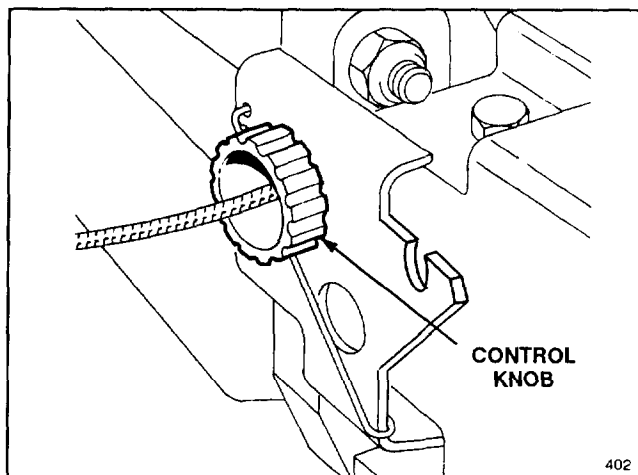

Figure 23
1. ADJUSTMENT (Fig. 23)—Rotate control knob clockwise 1/2 turn if mower does not self-propel. If mower creeps forward, rotate knob 1/2 turn counterclockwise to loosen belt.